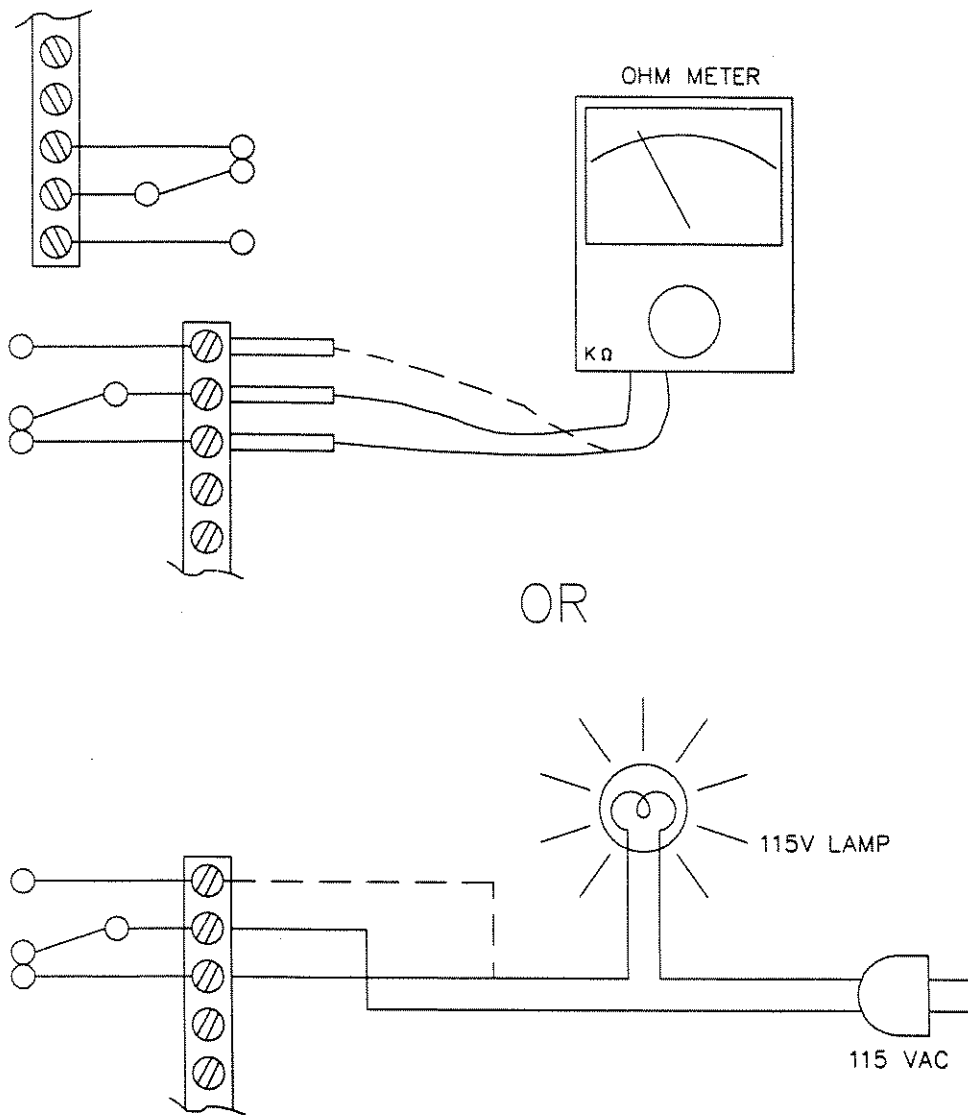

Figure 5-4
- C. Relay operation may generally be heard as an audible click when the background noise is not too high. Use one of the methods shown in Figure 5-4 to determine if the relay contacts are switching.